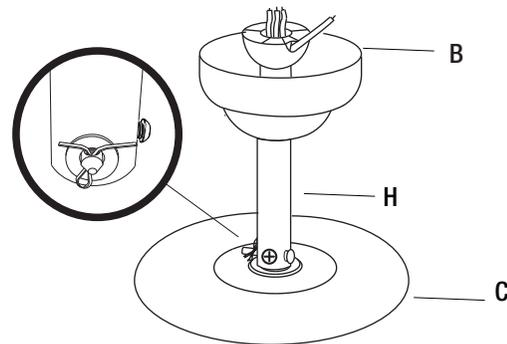

Figure 5
- Push the pivot pin through the motor shaft and downrod holes (Figure 5). Pivot pin's insert end is of special designed cone shape, it would push away and won't harm the wires inside the downrod. Secure the pivot pin by inserting the split pin and bending the ends to prevent it from falling out of the holes (Figure 5).
- Secure the motor shaft and downrod by tightening the screw on the downrod (Figure 5).